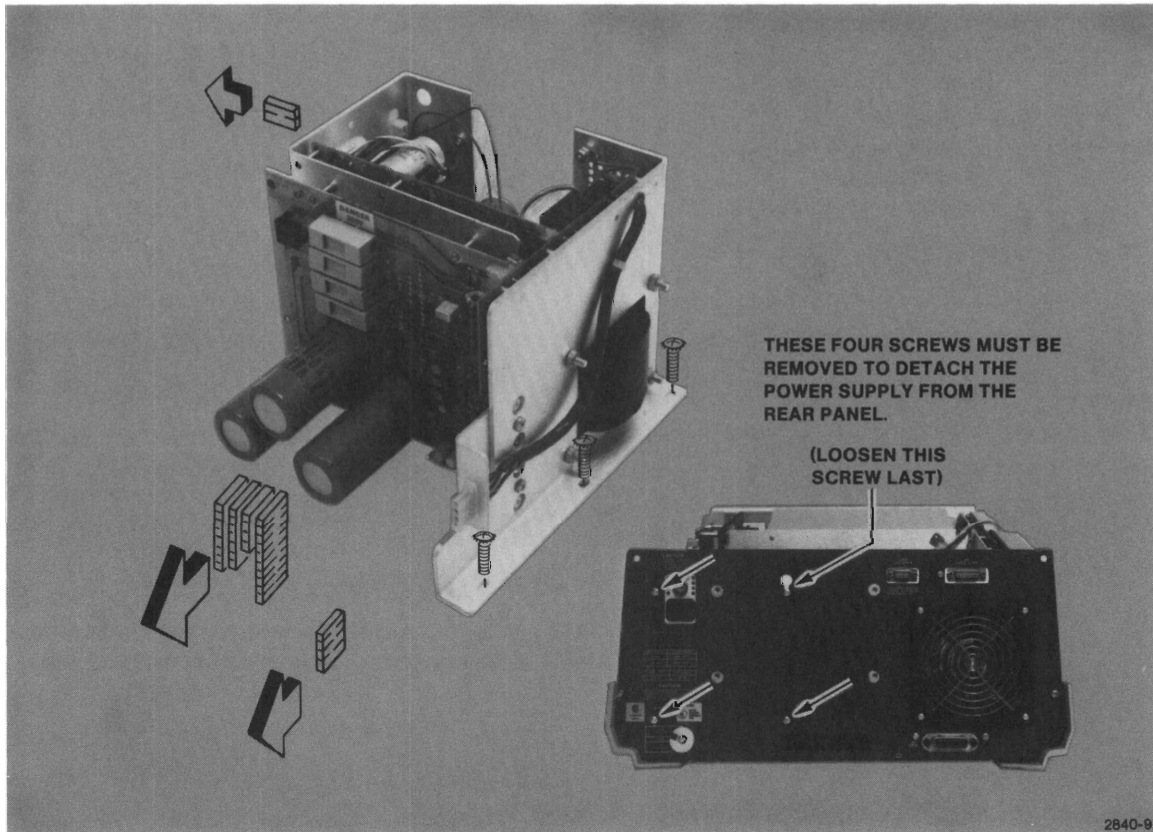

Figure 3-18. Power Supply Removal.
2. Remove all of the connectors and Phillips screws as shown in Figure 3-18. The screw to be removed last is marked in the illustration.